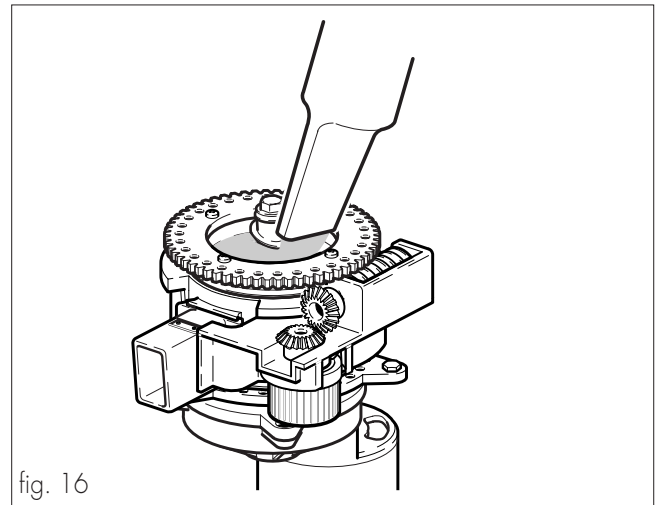

fig. 16
- With the help of a vacuum cleaner remove the beans from the grinder's inlet (fig. 16).